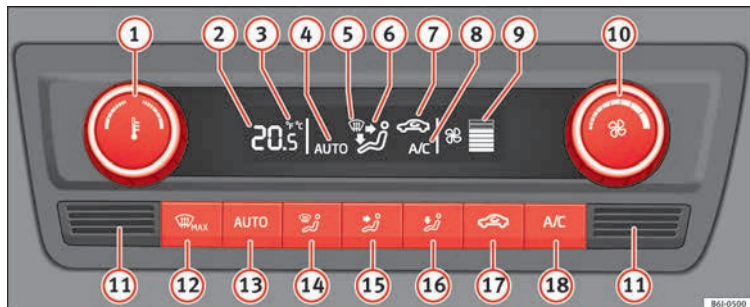

Fig. 171 Climatronic: controls.
- **A/C** (18) » Fig. 171 switched on.
The corresponding function will be switched on when a button is pressed, turning on the air conditioning if it was switched off, with the exception of button (17) » Fig. 171 (recirculation).
- Turn control (10) to the left until the segments of column (9) » Fig. 171 switch off.
- Press the **AUTO** button **(13)** » » **Fig. 171**.
Keep the **AUTO** and **A/C** » » **Fig. 171** buttons held down for **2 seconds** at the same time. The data is displayed on the screen in the units required.
- **The interior temperature sensor **(11)** » » **Fig. 171** is at the bottom. Do not cover it with stickers or the like, as this could have a negative effect on Climatronic operations.**
- Press the **AUTO** button **(13)** » » **Fig. 171** and **AUTO** displayed on the screen.
- When you switch on the ignition, control **(1)** » » **Fig. 171** can be used to set the required interior temperature.
- Press button **(17)** » » **Fig. 171** and the  symbol is displayed on the screen.
- Press button **(17)** » » **Fig. 171** and the  symbol disappears from the screen.
- Turn control **(10)** » » Fig. 171 counter-clockwise (to lower the speed) or clockwise (to increase the speed).
- Press the button **(MAX)** **(12)** » » Fig. 171.
- Press button **(MAX)** **(12)** » » Fig. 171 several times or press the **(AUTO)** button.